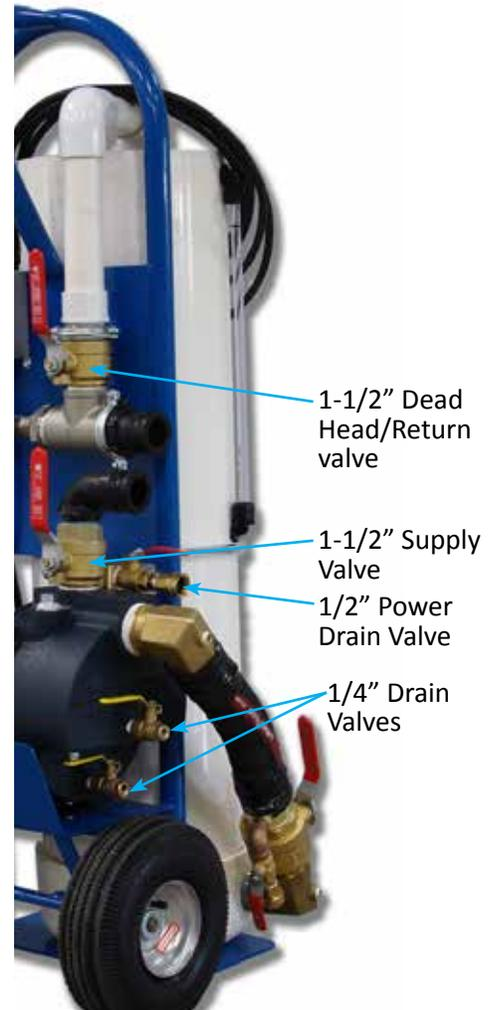

Figure 21: Flush Cart Valves in emptying the tank
1. Connect a garden or transfer hose to the 1/2" power drain valve (Figure 21) on the pump. Direct the other end of the hose to an appropriate disposal area or storage tank.
2. Close the 1-1/2" supply valve (Figure 21).
3. Open the 1/2" power drain valve (Figure 21).
After each use, thoroughly clean the bag filter and tank with clean water. Be sure that all debris is cleaned from the tank and hoses. Drain all water from the tank and pump. Open both 1/4" drain valves (Figure 21) on the pump to ensure that all fluid has exited the pump housing. Failure to complete this step could result in the pump housing cracking if the fluid inside freezes.